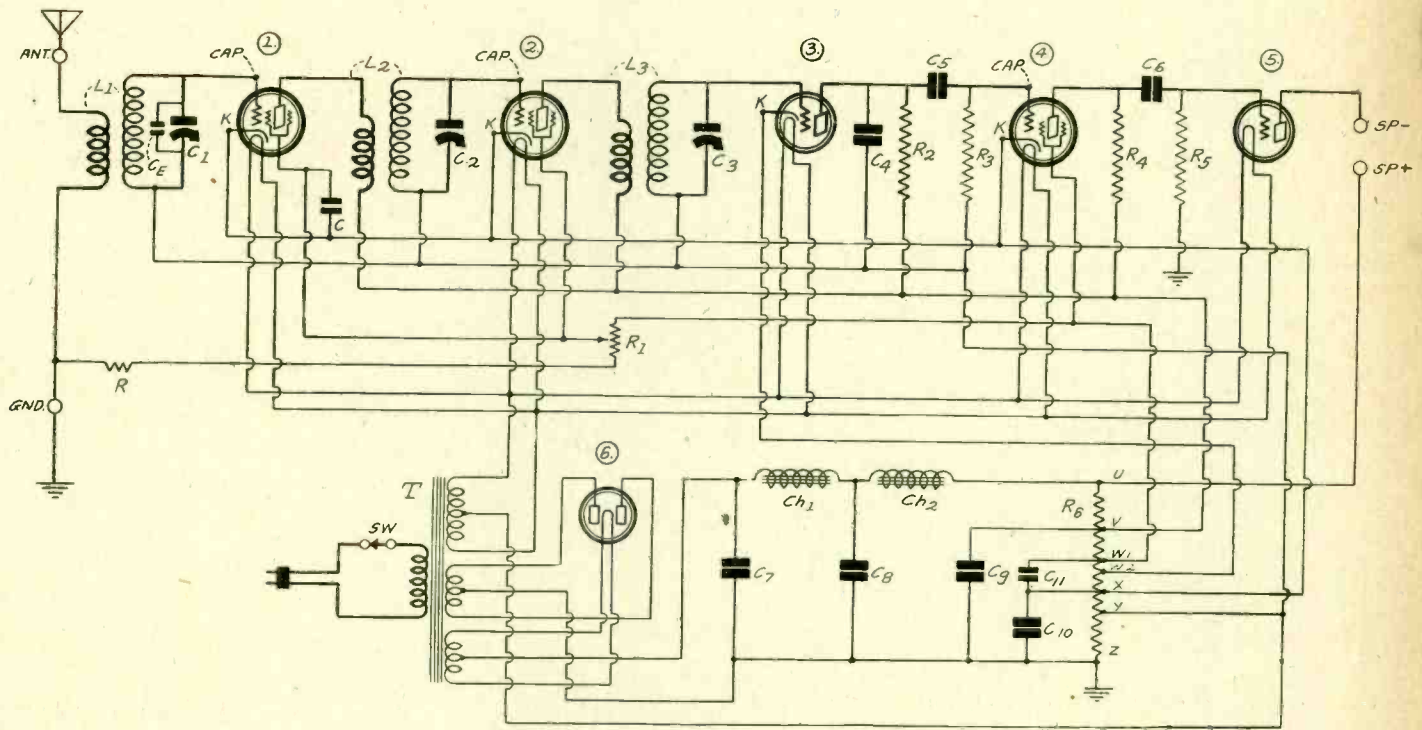

FIG. 1.
Suitable connection to the potentiometer network of the B supply will furnish the remedy, however. This is shown in Fig. 1. The highest voltage is U, about 300 volts, for the 245 power tube (5), reckoned from the grounded midtap of the high voltage winding. The next highest voltage, V, is of a different value for different tubes, because the cathodes and grid returns of those tubes are connected to different places, which represents the solution of the problem. Notice that the same point, V, furnishes different voltages by virtue of this special and original method of connection.